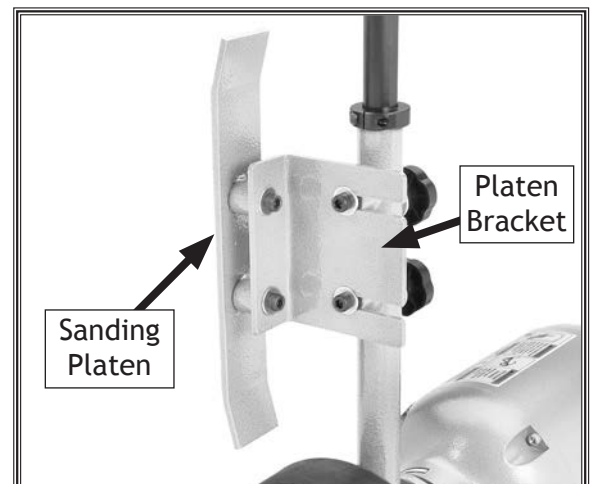

Figure 14. Sanding platen and bracket installed on pivot arm.
14. Install the platen bracket onto the pivot arm with the pre-installed hardware, as shown in **Figure 14**.
15. Install the sanding platen onto the platen bracket with the pre-installed hardware, as shown in **Figure 14**.